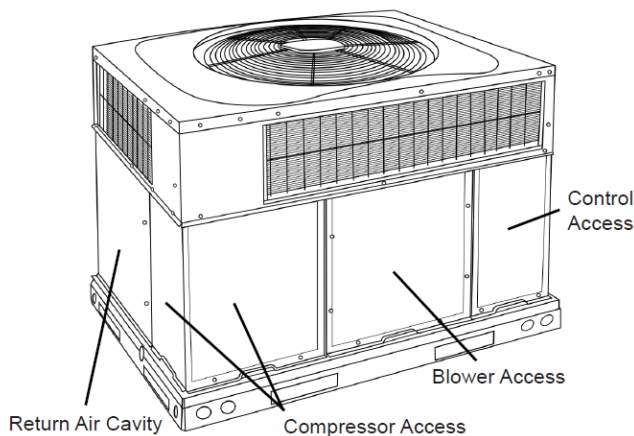

Fig 1. - Panel Identification (Not unit specific)
1. Remove and set aside for future re-installation, the Control Compartment Door, Blower Door, and Compressor Access - See Fig. 1 for Panel Identification.